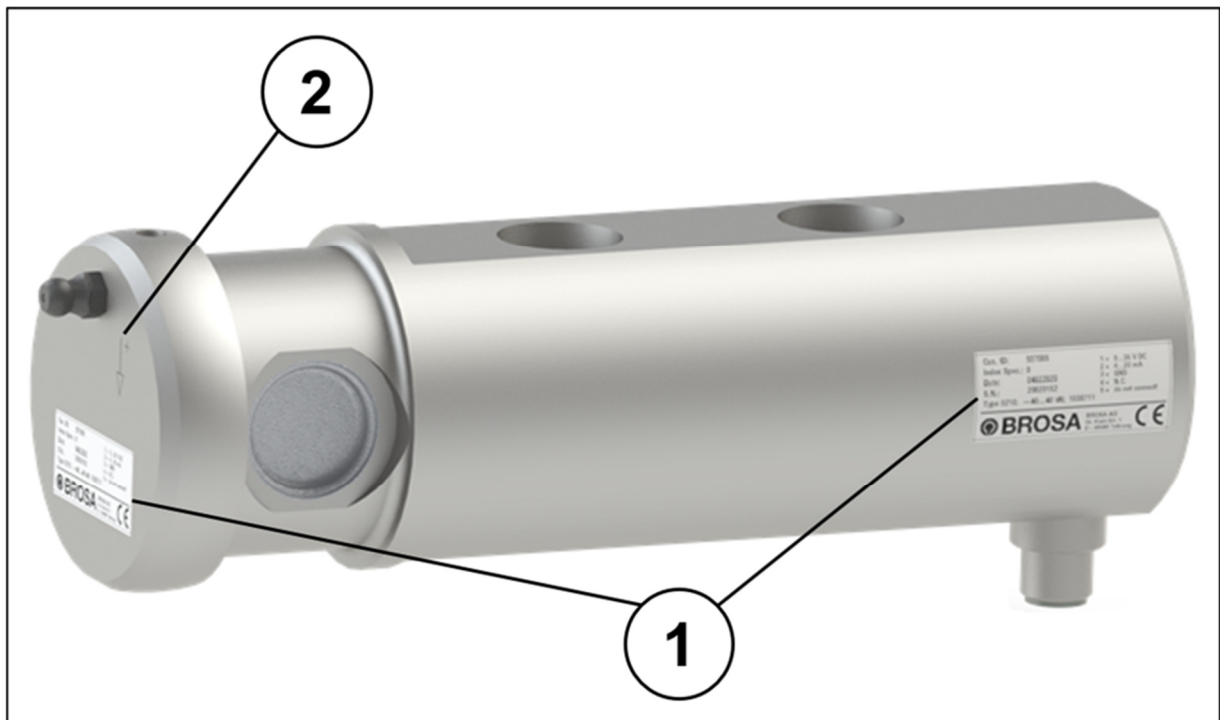

Figure 3: Nameplate positions, measuring direction
Each BROSA shear force transducer is equipped with an indicator plate(1) containing the respective information applicable for the given product. It is attached to one of the outer surfaces of the measuring body or the connection support (see figure 3).
The measuring direction is indicated on the front side with an arrow (Figure 3, 2).